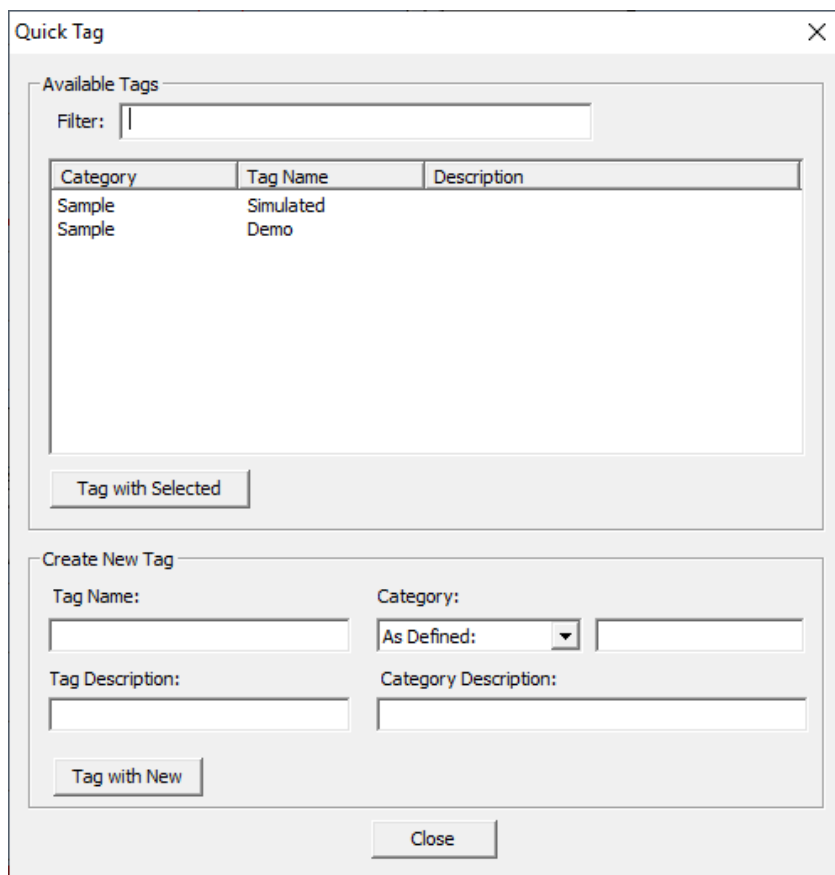

Figure 6-11. Quick tag dialog
3. To add tags to this waveform, click the Add Tags button. This will open the Quick Tag dialog (Figure 6-11)
5. Since tags are intended to be used on multiple waveforms, the Available Tags list shows all tags that you have created in the past. In the Quick Tag dialog in Figure 6-11, there are two tags that have already been created “Simulated” and “Demo”. Clicking the Tag with Selected button will add the selected tag(s) to the current waveform.